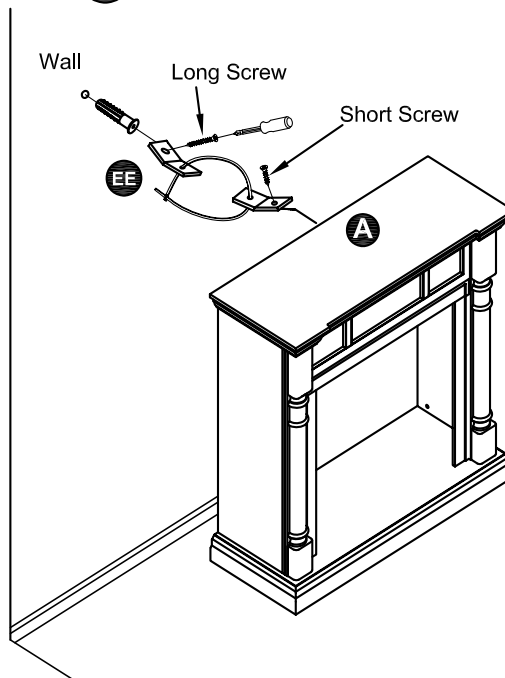

Figure 8
8. Install Anti Tip Kit (EE), as shown in Figure 8.